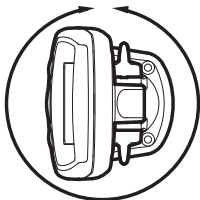

Figure 1
- **Clearance:** The mounting area should allow sufficient room for the unit to tilt and swivel freely, and for easy removal and installation (Figures 1 and 2).